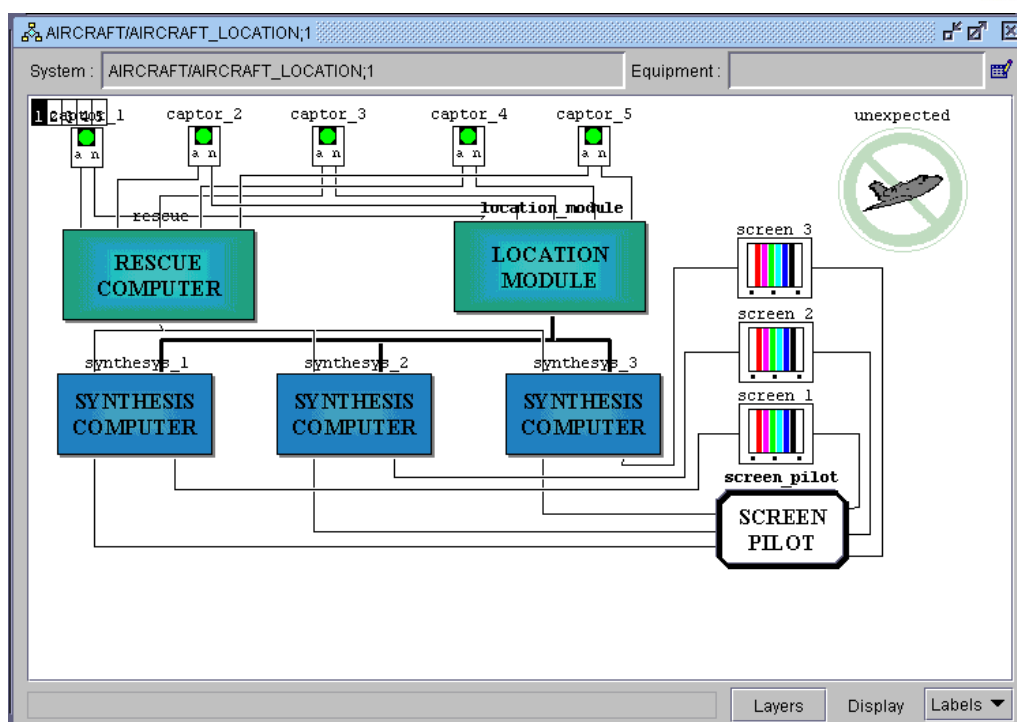

Figure 137 : Architecture without links
- ♦ Carry out the same transfer procedure for all the components or equipment making up the system architecture (Figure 137).